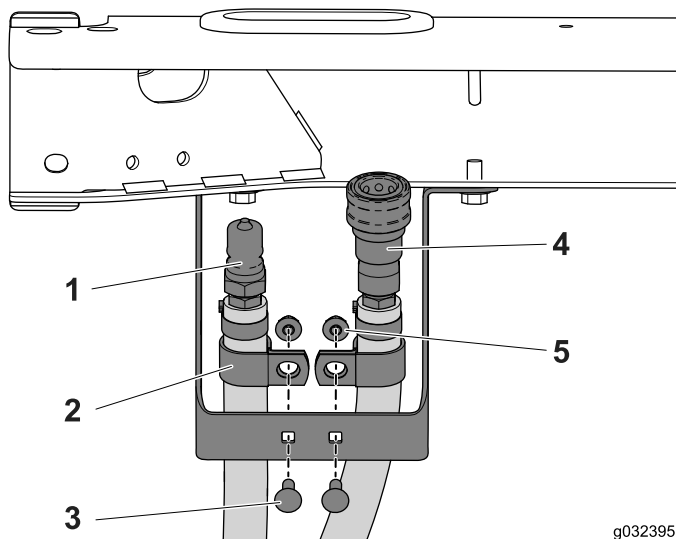

Figure 18
3. Position an R-clamp over each hose (Figure 18).
4. Use the 2 carriage bolts (1/4 x 3/4 inch) and flange nuts to install the R-clamp and hose assembly to the bracket mount (Figure 18).